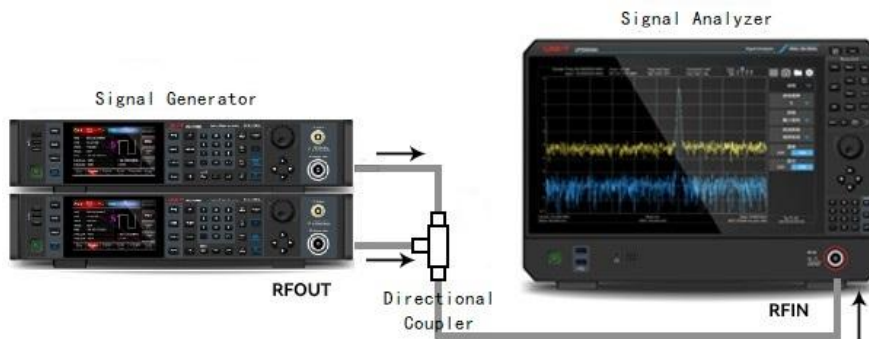

Figure 3-4 Instrument Setting for Acquiring Two-channel's Signal
1. As shown in Figure 3-4, connecting two signal sources to the RF IN port of the signal analyzer via a directional coupler.
- As shown in Figure 3-4, connecting two signal sources to the input port of the signal analyzer.